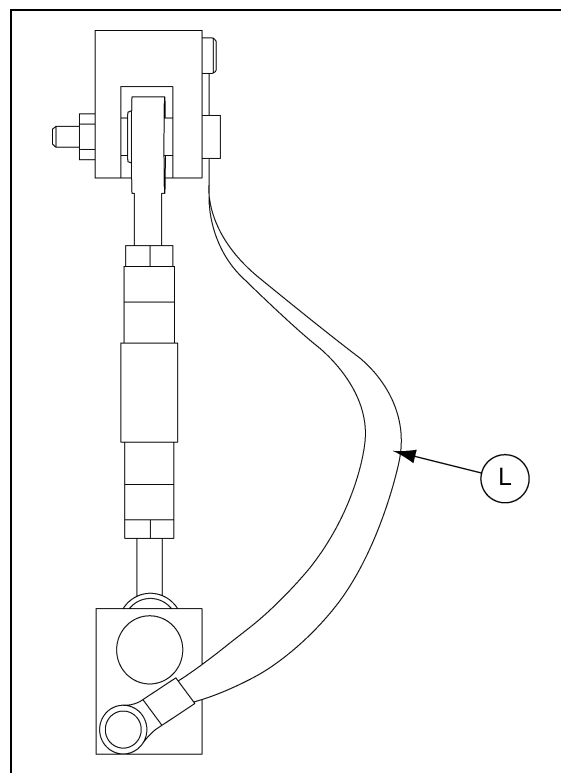

Figure 2S
- g. Connect the earth braid (L) between the upper and lower mounting positions. (See Figure 2S.)